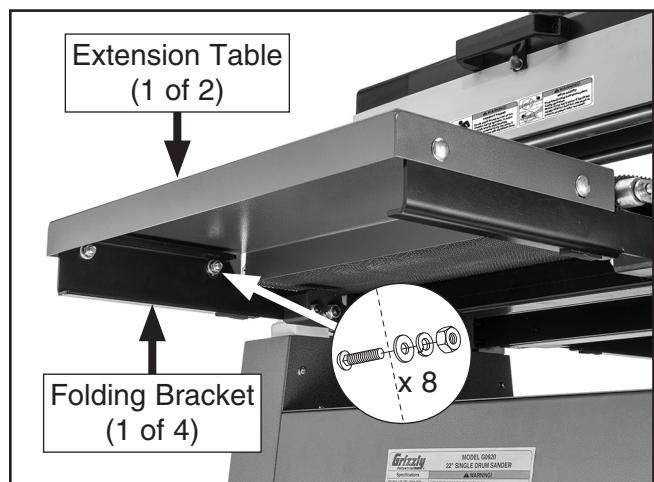

Figure 25. Extension tables installed.
24. Repeat **Step 23** with (2) left table folding brackets.
25. Attach (2) extension tables to folding brackets with (8) M8-1.25 x 20 carriage bolts, 8mm flat washers, 8mm lock washers, and M8-1.25 hex nuts (see **Figure 25**).